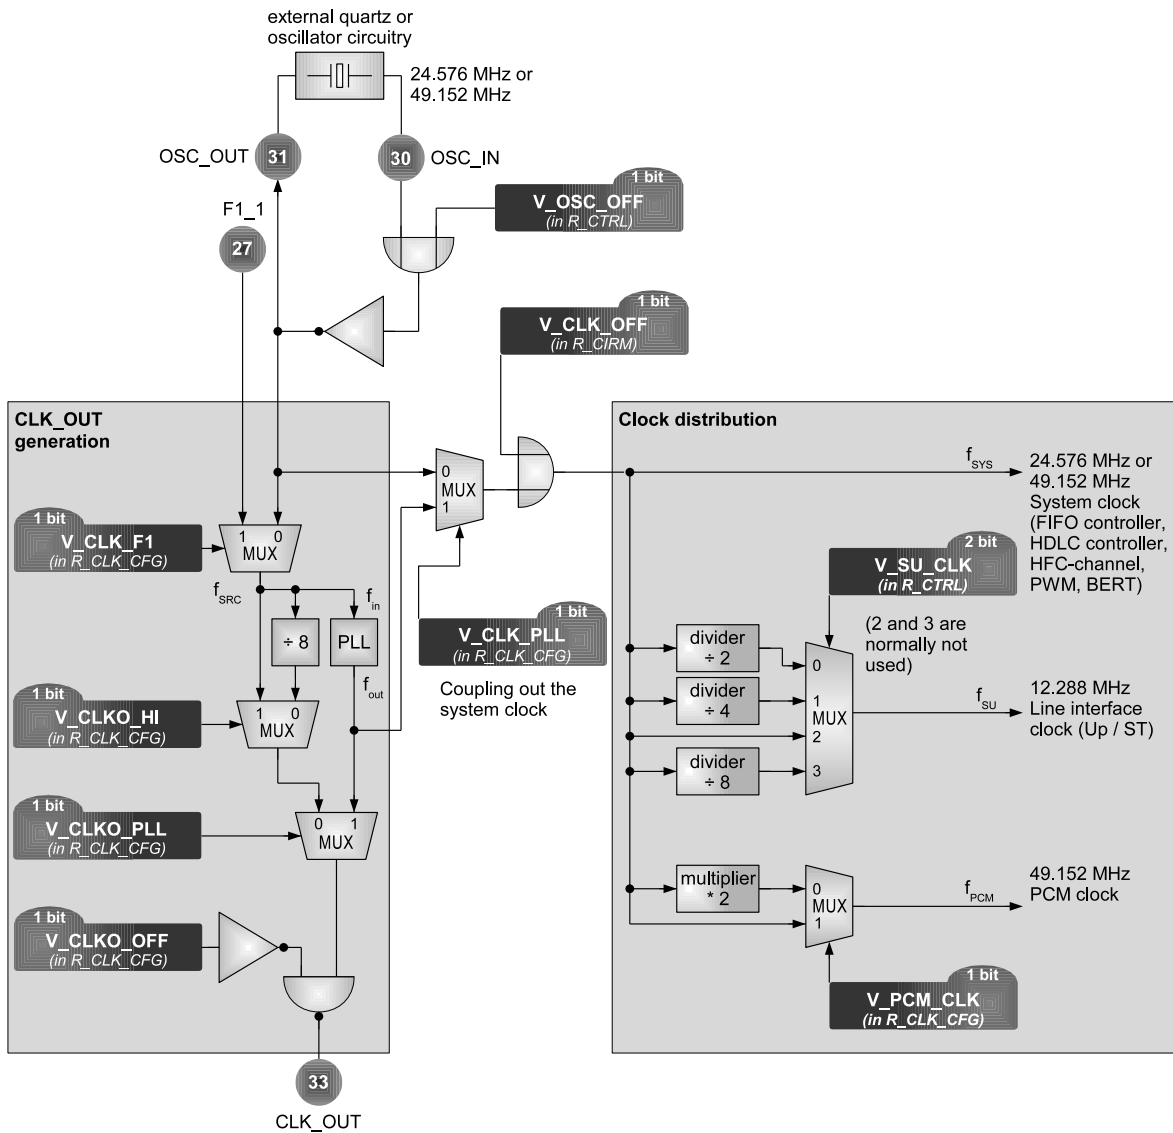

Figure 9.1: CLK\_OUT generation and clock distribution
XHFC-1SU supplies a programmable clock output which can be used for source of clocking for any external device. Even a CPU or MCU supervising the whole system in which XHFC-1SU is used can be clocked. The left part of Figure 9.1 shows the block diagram of CLK\_OUT generation.
All setup bits shown in Figure 9.1 are implemented in a way that there are no glitches on the clocks when register bits change.
XHFC-1SU uses several internal clock frequencies. They are generated as shown in the right part of Figure 9.1.
Depending on the external clock source connected to pin OSC\_IN, the internal PLL shown in Figure 9.1 is either required for internal clock generation or it is available for other application needs.
- When any other clock frequency is feed in pin OSC\_IN, the PLL is required for  $f_{SYS}$  generation.  $f_{SU}$  and  $f_{PCM}$  are derived from  $f_{SYS}$  as shown in Figure 9.1.